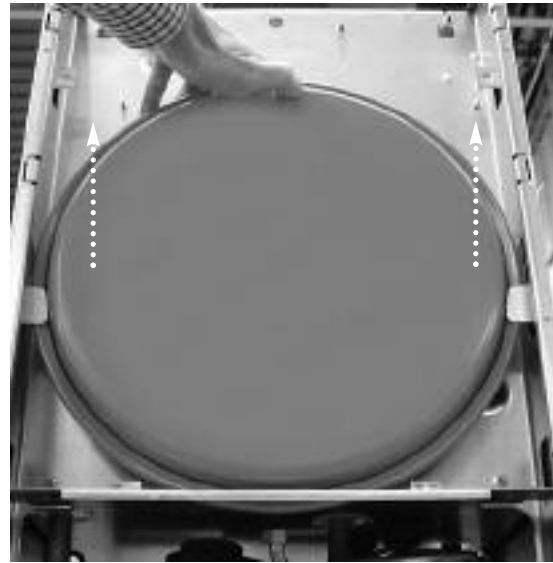

Fig. 99
5. Pull the expansion vessel to remove it (see Fig. 99);